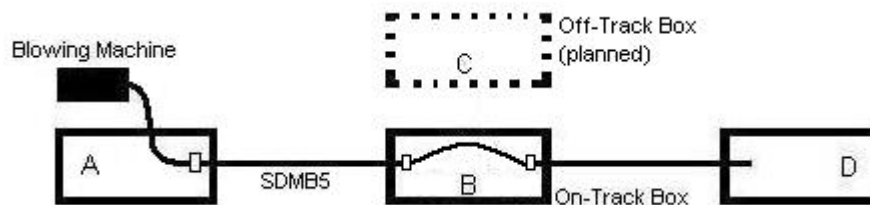

Figure 14 – Installation of cable through SDBM5 'jumper' in on-track box
1. Install a minimum length of 'jumper' between the SDBM5 Connectors in the on-track box (see Figure 14)